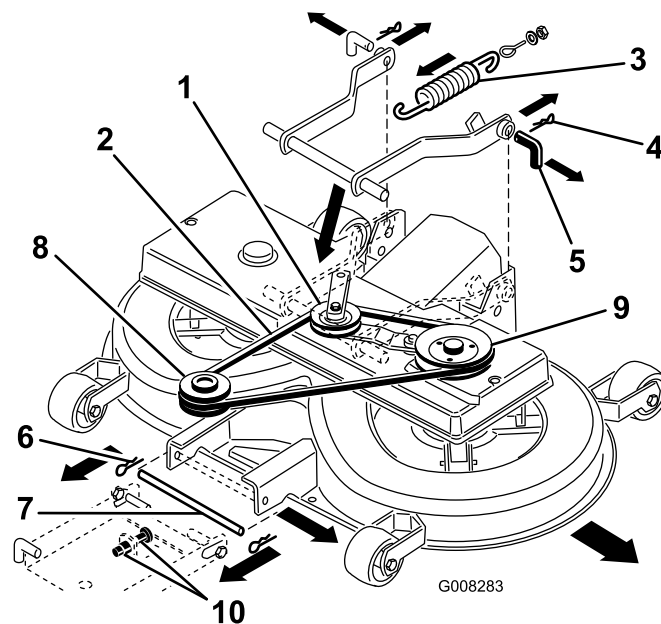

Figure 39
- Pull the idler arm assembly in and remove the V-belt from the pulley (Figure 39).
- Disconnect the spring from the engagement lever (Figure 39).
- Remove the hairpin clips from the 2 rear pins and remove the pins (Figure 39).
- Remove the hairpin clip from the front pin and remove the pin (Figure 39).
- Remove the V-belt from the engine pulley (Figure 39).
7. Move the lower pin of the front adjustment suspension into the bottom position of the slotted holes by adjusting the 2 nuts (M12) on the front suspension (Figure 39).